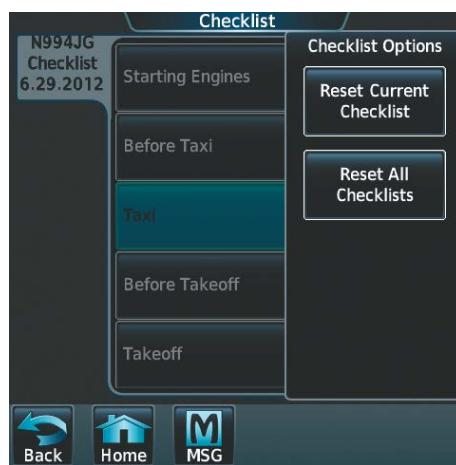

Figure 8-124 Checklist Options
- 4) Touch **Reset Current Checklist** as seen in Figure 8-124.
- 3) Touch **Reset All Checklists** as seen in Figure 8-124.